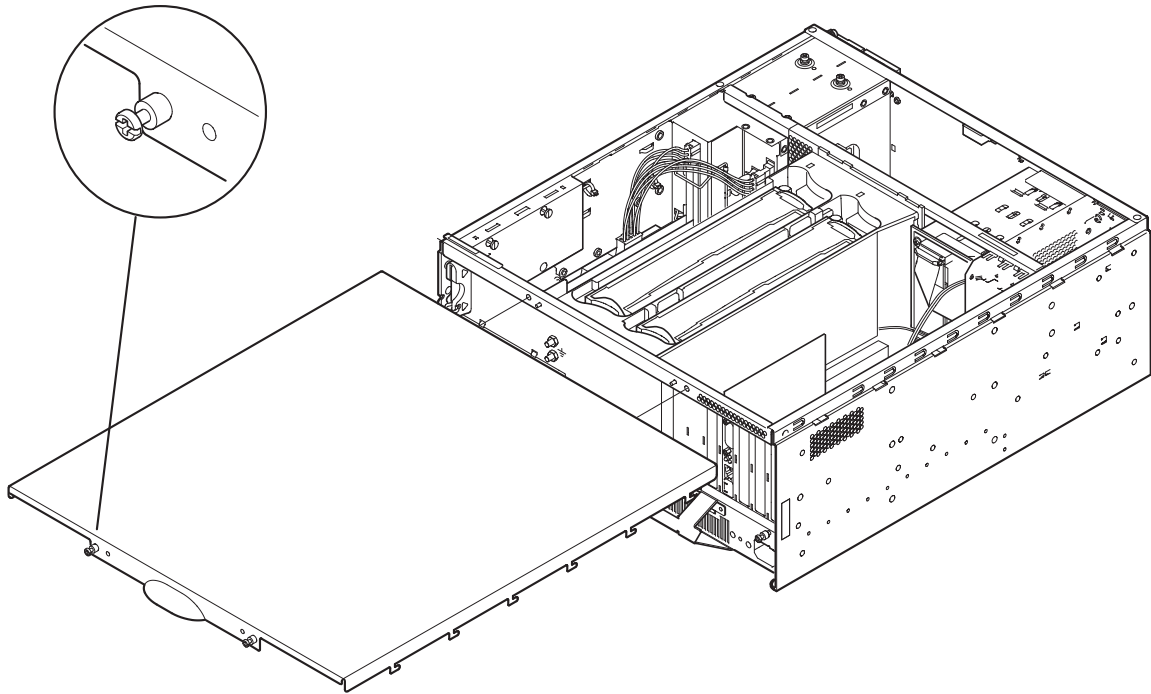

FIGURE 5-4 Top Access Cover
- 2. With the fixing screws on the access cover towards the rear of the system chassis, locate the lugs on the access cover in the slots on the side panels of the system chassis (see FIGURE 5-4).**